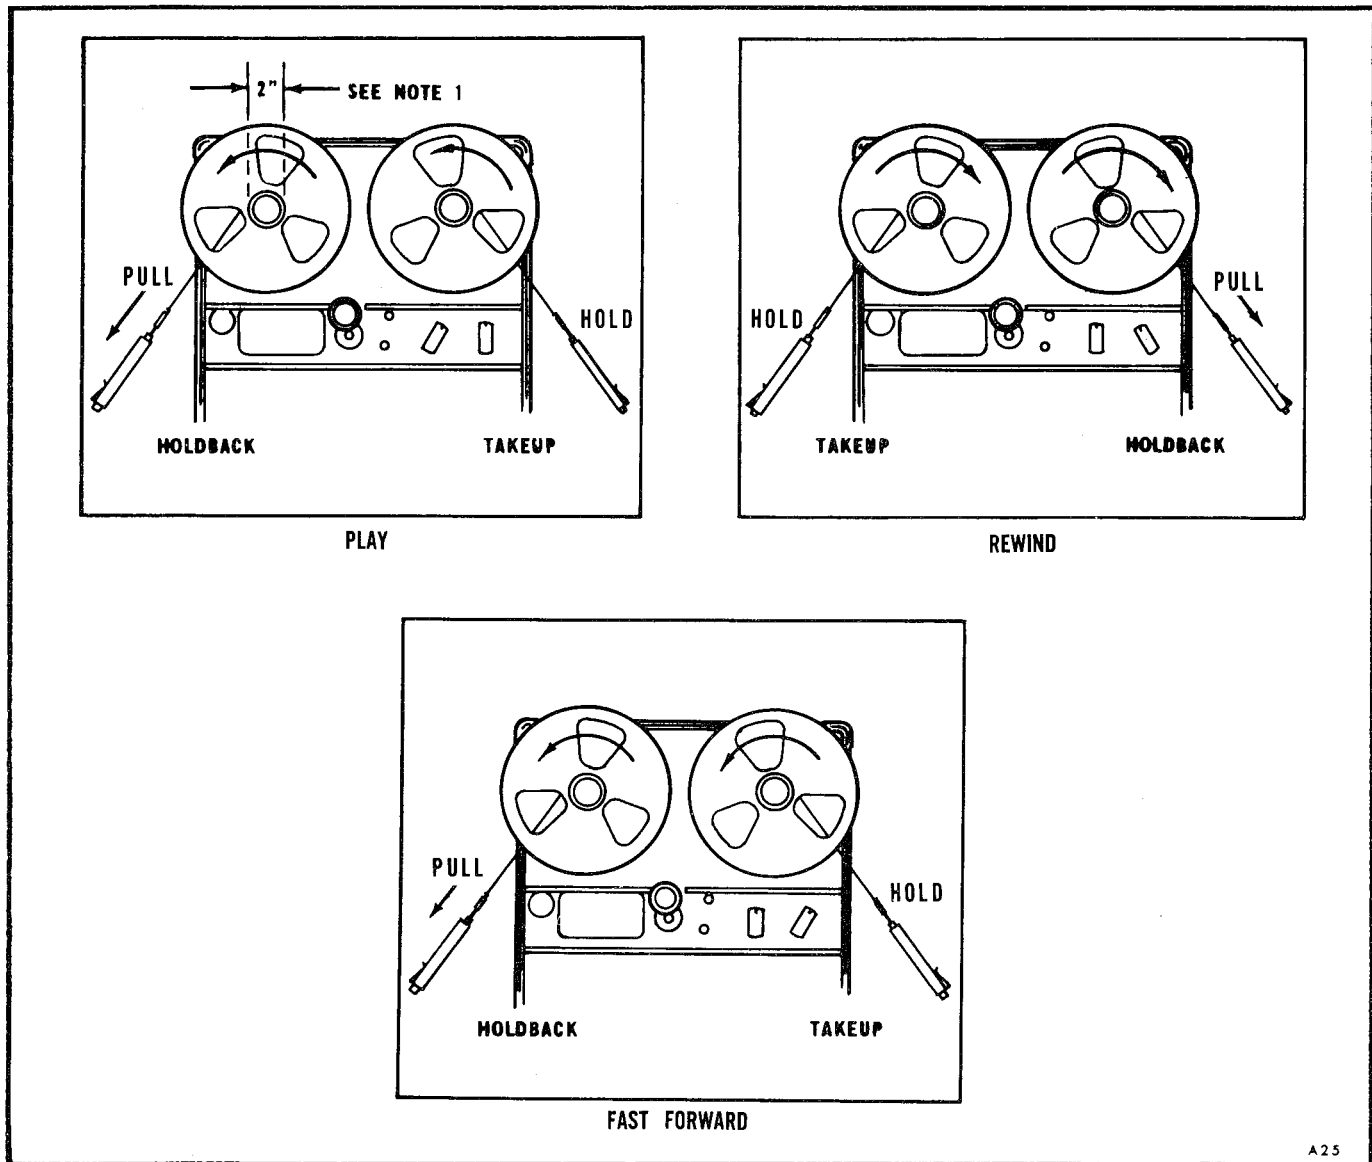

Figure 4-2. Tape Tension Measurement
4.23 TAPE TENSION CHECK (See Table 4-1 and Figure 4-2)
4.25 Tape tension is measured by determining the drive and holdback brake torque at each reel. Torque of the turntable pulling the tape is measured by holding the spring scale stationary against the motor drive force; torque of the turntable supplying tape is measured by the force required to rotate the reel in the normal direction (see Figure 4-2).